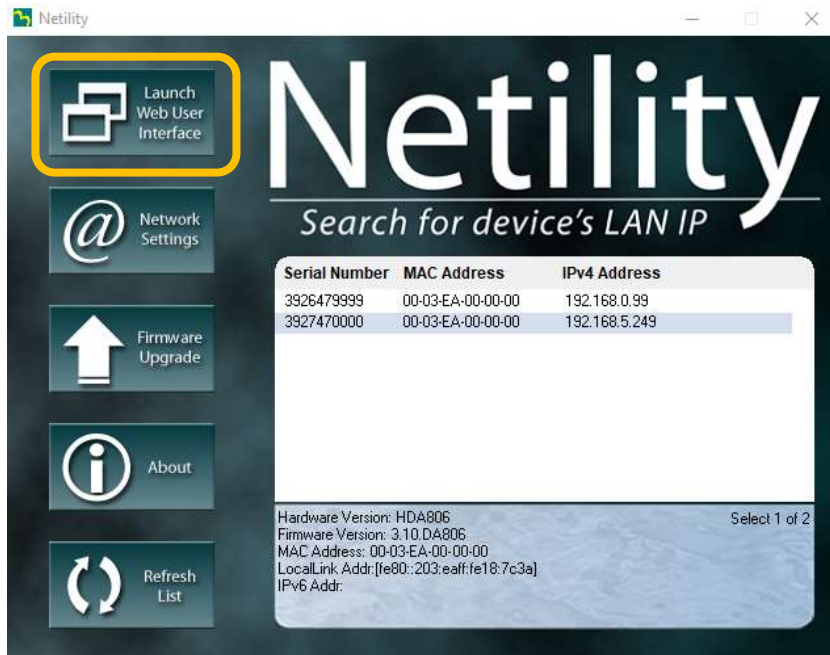

Fig. 5-8 Netility software main screen
- Locate and run the NETILITY software (Fig. 5-8)